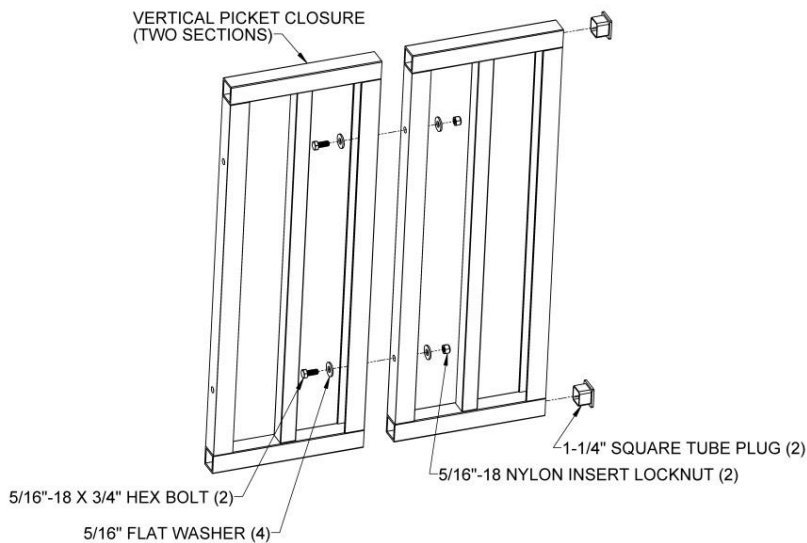

FIG. 5.13
5.6.2. Bolt the two Vertical Picket closure sections together using 5/16"-18 x 3/4" long hex bolts, 5/16" flat washers, and 5/16"-18 nylon insert locknuts (as shown in FIG 5.13). Then, Insert 1-1/4" square tube plugs in the open ends of the top and bottom rails on one side. If the ramp will be centered, do not assemble. Insert 1-1/4" square tube plugs in all open ends which do not attach to a platform post.